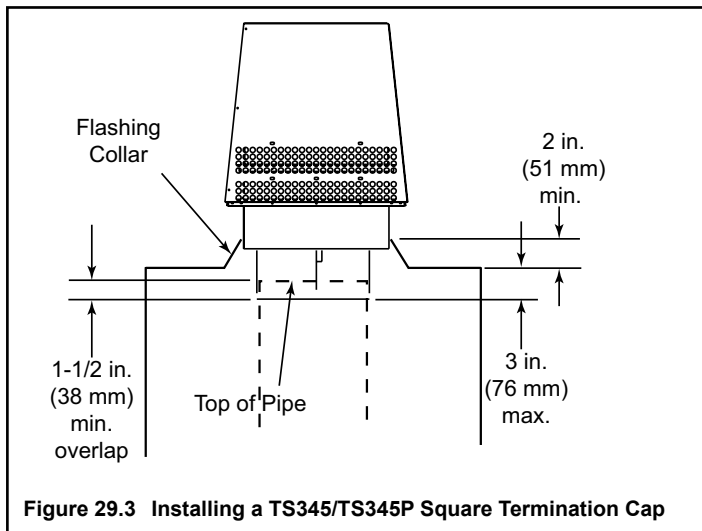

Figure 29.3 Installing a TS345/TS345P Square Termination Cap
- For installations utilizing a TS345/TS345P Square Termination Cap, the uppermost chimney section must not be more than 3 in. (76 mm) below the chase top. See Figure 29.3.